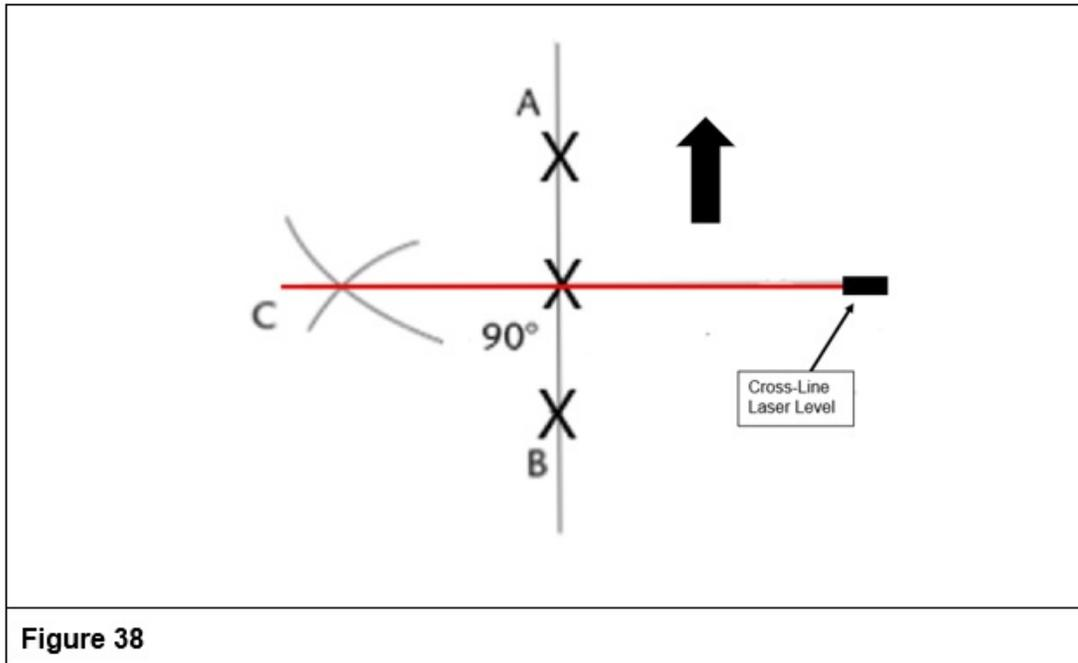

Figure 38
NOTE: When performing Steps 46 – 48, refer to Figure 38.
46. Using the Plum Bob string with the loops, place the Plumb Bob weight point in one loop exactly in the center of **Point (A)**. Put the capped marker pen in the other loop. Keep the string taut and move the pen to the left (the vehicle's driver's side). Apply a piece of masking tape on the floor where the arc at **Point (C)** will be made. (See Figure 38.)
47. Uncap the pen, keep the line taut and the Plumb Bob weight point in the other loop and create an arced line on the masking tape at **Point (C)**. (See Figure 38.)
48. Use the process described in Steps 41 and 42 to create a crossed arc at **Point (C)** from **Point (B)**. (See Figure 38.)
50. Place the laser beam from the Cross-Line Laser Level through the exact center of the Plum Bob **X** and arc C. The laser beam line is exactly perpendicular (90°) to the centerline of the vehicle. (See Figure 38.)